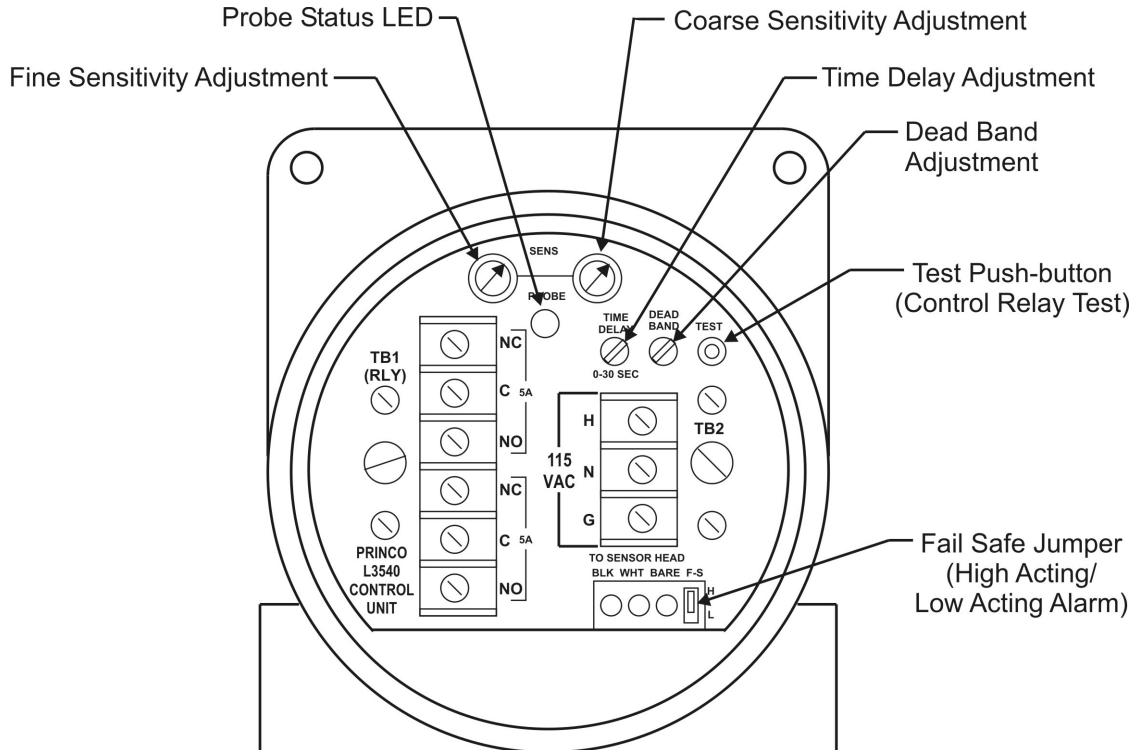

Figure 4-1 L3540
1. Refer to Figure 4-1 for L3540 adjustment and indicator locations.
- a) Refer to Figure 4-1 for adjustment and indicator locations. Refer to Figure 4-2 for a pictorial outline of this procedure.
- f) Preset Coarse (C) and Fine (F) sensitivity (SENS) potentiometers to mid-point positions (12 o'clock).
- g) With process material NOT contacting the probe, adjust the Coarse (C) sensitivity such that the PROBE STATUS LED "just turns" green. Mark the Coarse (C) pot screwdriver slot or mentally note its position.
- a) Refer to Figure 4-1 for adjustment and indicator locations. Refer to Figure 4-3 for outline of this procedure.
- f) Preset the Fine Sensitivity pot (F) full clockwise and the Coarse Sensitivity pot (C) full counter-clockwise.
- g) With process material NOT contacting the probe, adjust the Coarse (C) sensitivity pot clockwise such that the PROBE STATUS LED "just turns" green and stays. Don't touch the Coarse (C) sensitivity pot again.
This action is controlled by a small, plastic jumper selector switch FAIL-SAFE (F-S) located on Control Unit (Figure 4-1). The L circuit pad designates Low Acting Alarm. The H circuit pad designates High Acting Alarm. The center pad is the common, and always connects to one position of the jumper selector.